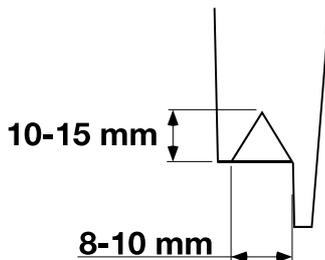

Fig 13.
- d Fit the pre-cut nozzle. ⇒ Fig 13. \(□ B-32\).